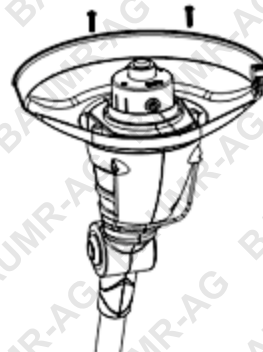

FIG. 2
3. Re-insert two screws into the guard and tighten (FIG. 2).